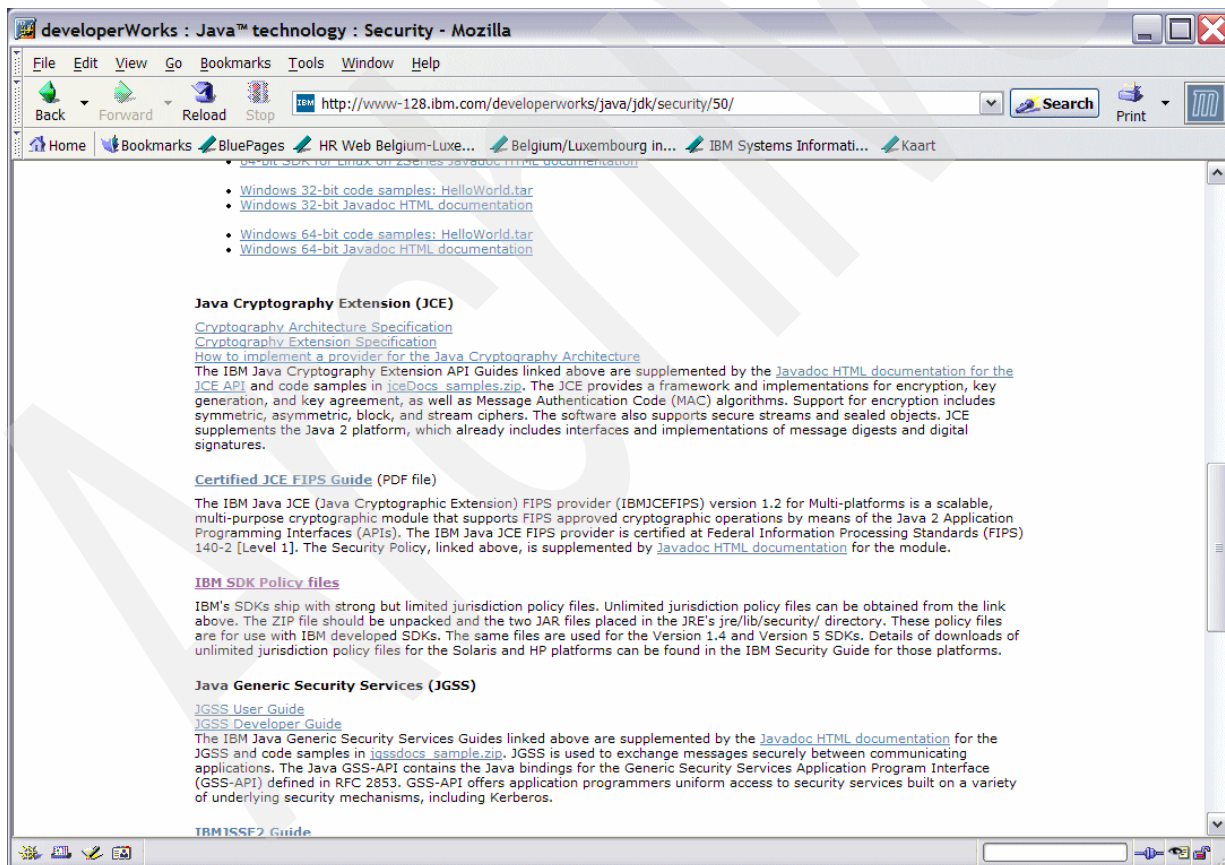

Figure 6-10 Java security site
- Go to the following Web site, scroll down to the Java Cryptography Extension (JCE) topic (Figure 6-10) and click **IBM SDK Policy files**: